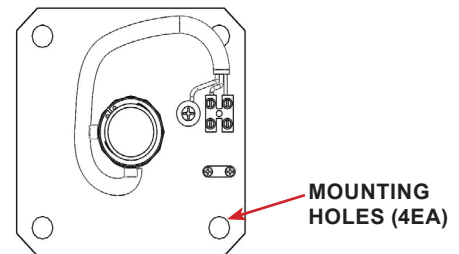

FIGURE 2.20 - Mounting Holes
- STEP 5:** Align the base plate with the holes, insert hardware and secure the base plate. Refer to FIGURE 2.20